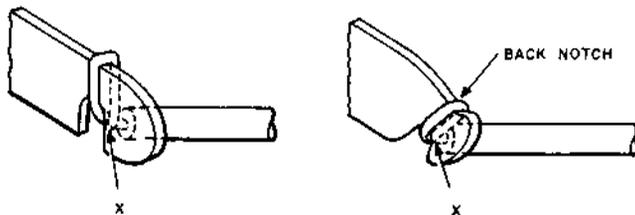

Fig. 3—Termination of Wire on Protector (notch on underside of terminal)
**8.04** To terminate a wire on the terminal of a protector where the notch appears on the underside of the terminal as shown in Fig. 3, bring the wire under the terminal, up through the notch, along the front of the terminal, over the top edge, or through the back notch where provided, and down the rear side, making one complete turn of bare wire around the terminal. Cut or break the excess wire at point "X".